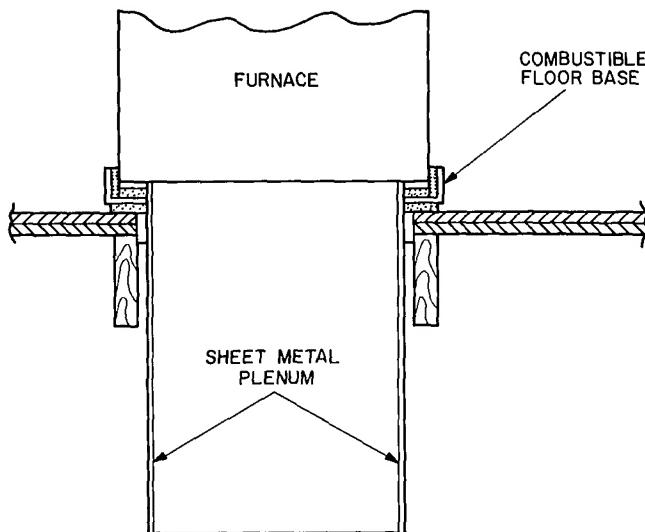

Fig. 6 — Furnace, Plenum, and Base Installed on a Combustible Floor
4. When completed, combustible floor base, plenum, and furnace (or coil casing when used) should be installed as shown in Fig. 6.